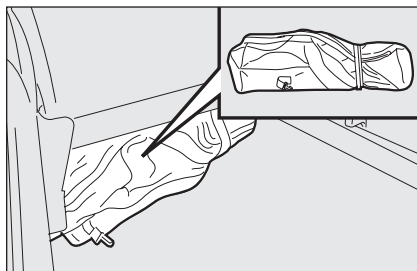
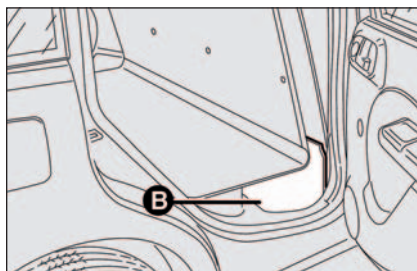

fig. 3
fig. 4
- ☐ take the tool bag **fig. 3** positioned under the driver's seat (4-seater version) or between the dividing wall and passenger seat **fig. 4** (2-seater version, accessible from the right rear door) and take it next to the wheel to be changed;